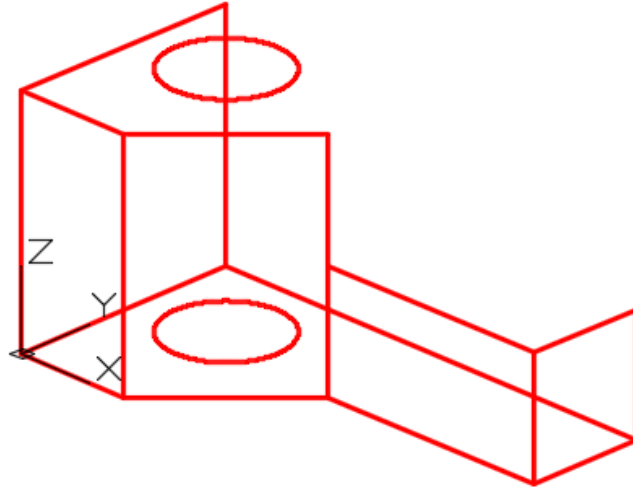

Figure Step 11
Step 11 Use the LINE command to draw six lines between the ends of the existing lines. Ensure that you snap to the ends of the lines. (Figure Step 11)